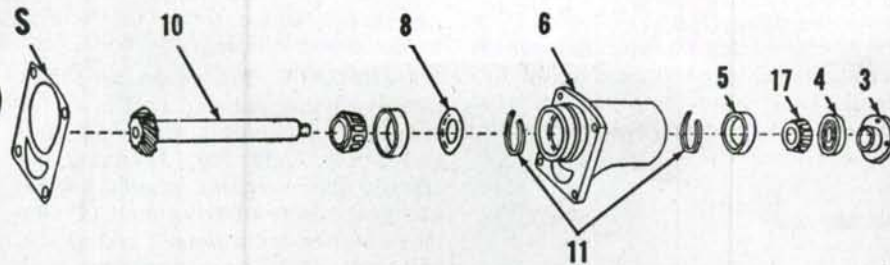

Fig. AC146—Model G belt pulley unit which is supplied for tractors equipped with a hydraulic lift system.
This unit, Fig. AC146, can be removed from the larger housing by unscrewing four cap screws. The gear is integral with the shaft (10) and is supported on tapered roller bearings which should be adjusted to free rotation, zero end play, by tightening the nut located under the dust cap at the end of the pulley flange (3). This adjustment can be made with unit in place, but preferably when it is off the tractor. Lip of oil seal (4) should face toward the bevel gear. After reinstalling unit to larger housing, check gear backlash which should be within limits of .005-.010. Obtain desired backlash by varying the shims (S) located between flange face of unit and face of larger housing.